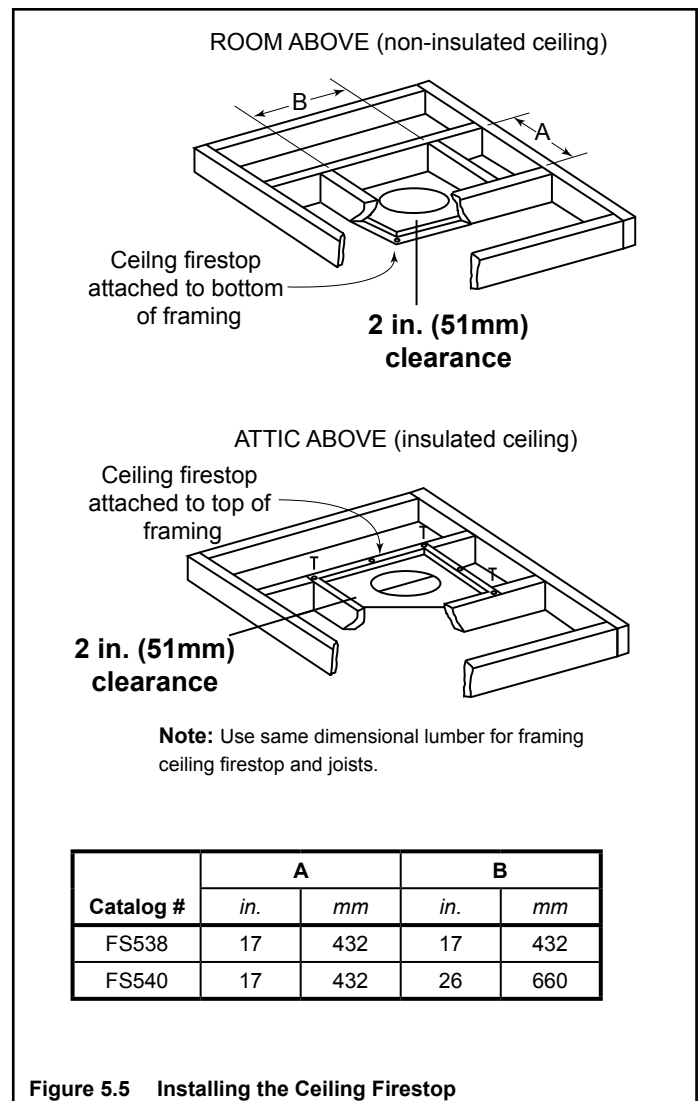

Figure 5.5 Installing the Ceiling Firestop
- Mark and cut an opening in ceiling as shown in Figure 5.5.
- Refer to Figures 5.5, 5.7.